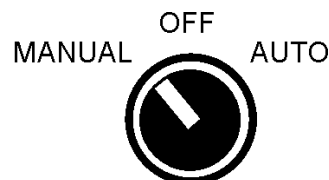

Figure 11. Operation Switch (Manual Position)
2. For manual operation of the pump, place the 3-position operation switch (Figure 11) on the control box in the MANUAL position.